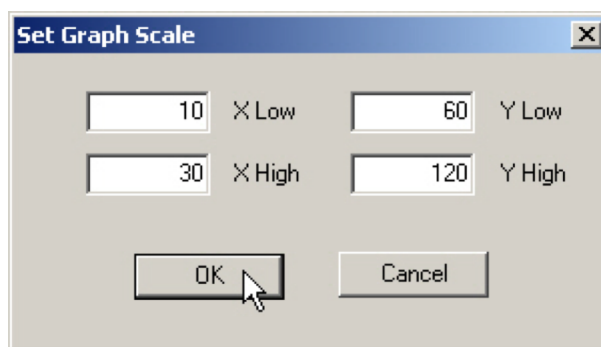

Figure 266 - Saving Scale Adjustments
2. Adjust the X axis and Y axis coordinates as necessary and click **OK** (*Figure 266*).